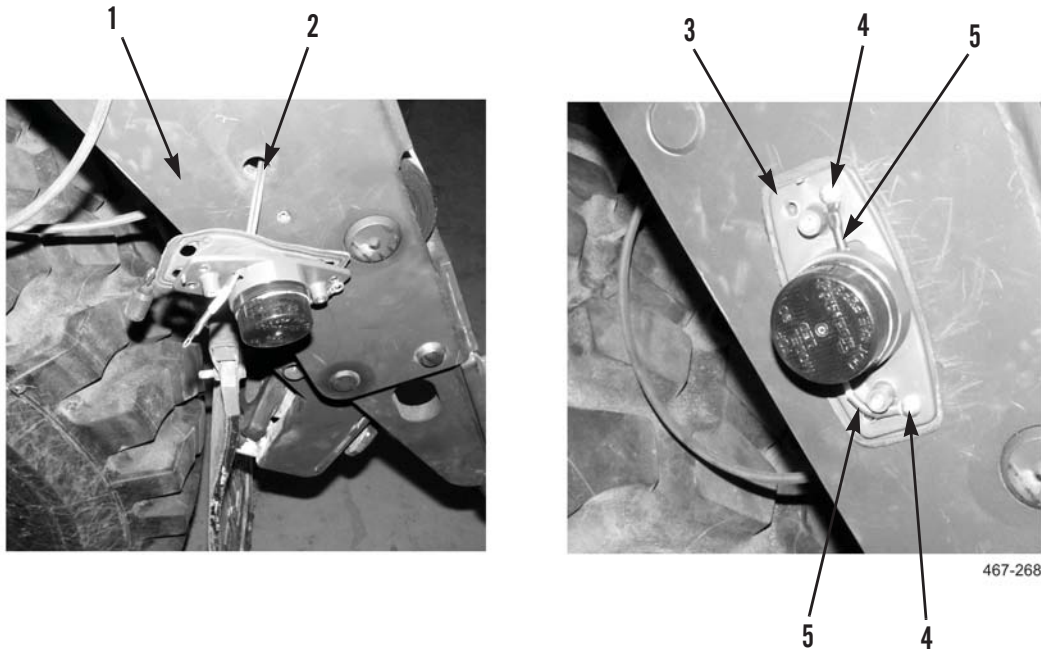

Figure 61. Slider Light Installation.
13. At rear slider bed (Figure 61, Item 1), feed extension wire (Figure 61, Item 2) through hole in side of slider bed.
14. Install light (Figure 61, Item 3), two ground wires (Figure 61, Item 5), and screws (Figure 61, Item 4) on slider bed (Figure 61, Item 1).